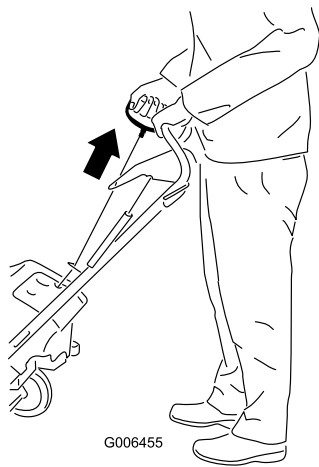

Figure 17
4. Pull the recoil-start handle (Figure 17).